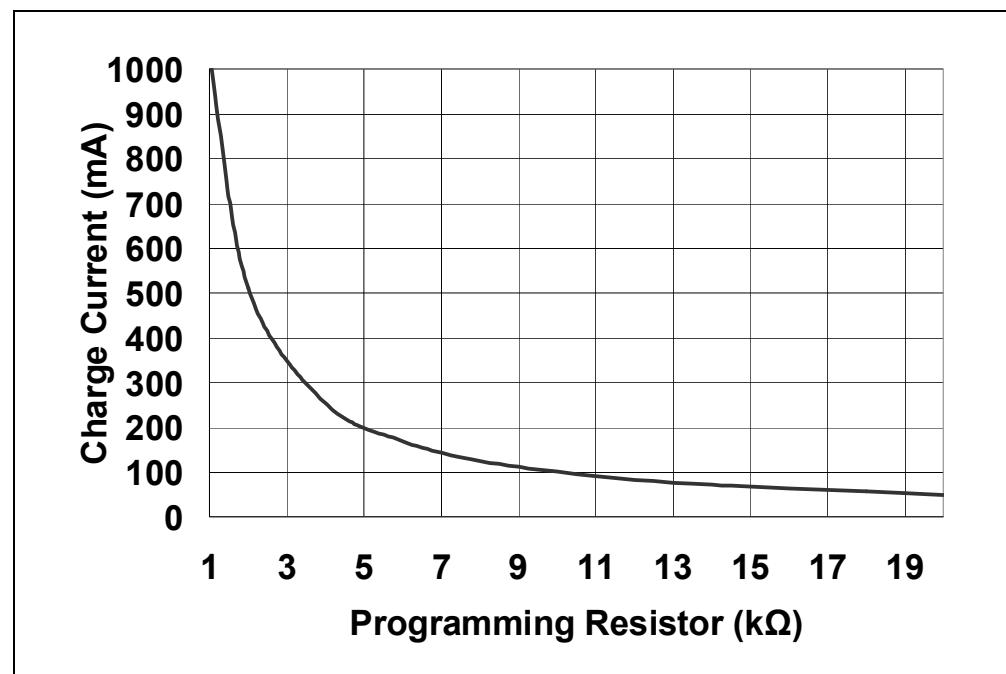

FIGURE 2-1: MCP73871 Charge Current (I_{OUT}) vs. Programming Resistor (R_{PROG1}).
Note: Refer to Table 2-1 for charge status outputs and Figure 2-1 for charge current setups.
- 2: Fast Charge Current and Termination Current can be easily programmed with various resistors based on Figure 2-1.
The resistors that connected at R_{PROG1} and R_{PROG3} pins select the maximum charge current in constant current mode from ac-dc adapter and termination current, respectively. The relationship between fast charge current and value of R_{PROG1} resistor is illustrated in Figure 2-1. The correspondence of R_{PROG1} on MCP73871 Demo Board with Voltage Proportional Current Control is R_1 . The default value is 1 k Ω , which sets the maximum charge current at 1A.